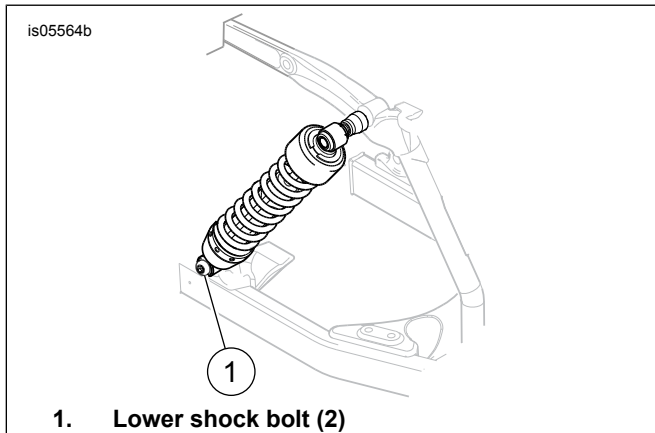

Figure 2. Remove Lower Shock Bolt (Right Side Shown)
4. See Figure 2. Remove the lower shock bolt (1) from each shock.